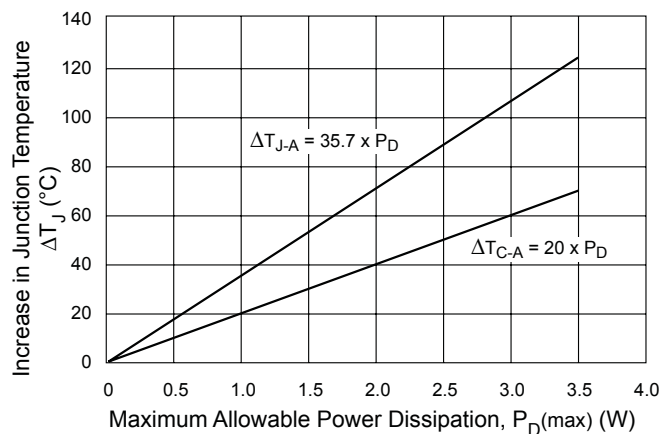

Figure 15. Temperature increase relationship
Based on the P_D calculated using the above formula, the expected increase in operating junction temperature, ΔT_J , of the IC can be estimated using figure 15.
5. Refer to figure 15 and locate the value found in step 4 on the ΔT_{CA} trace.